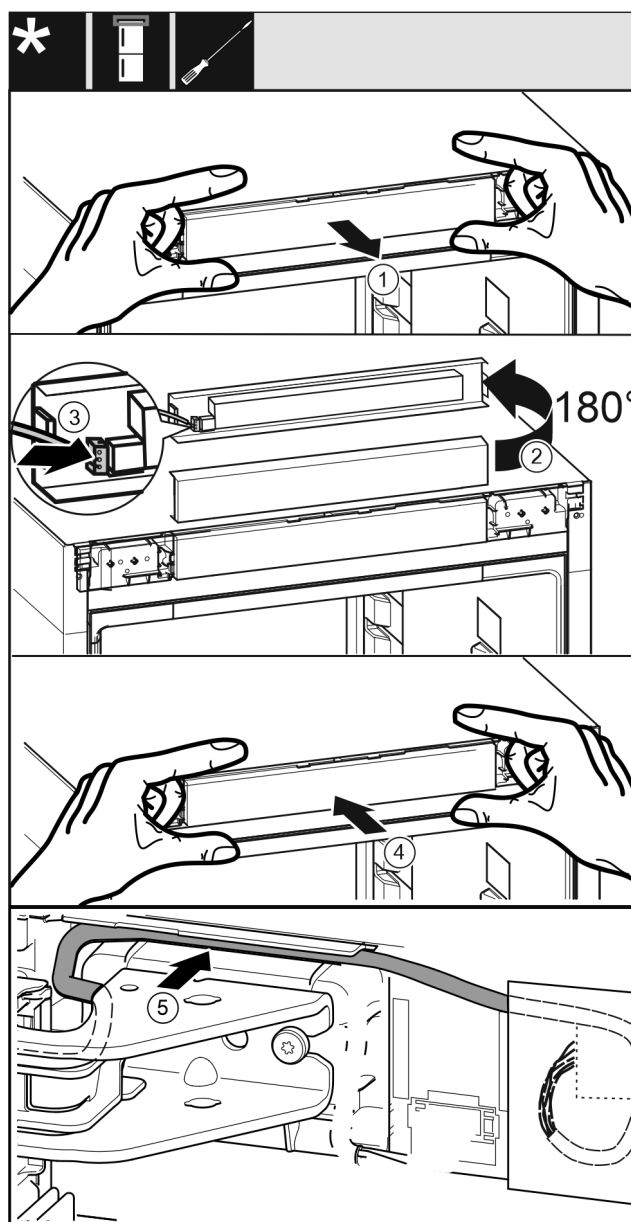

Fig. 48
- Carefully pull out the control plate Fig. 48 (1).
- Turn the control plate Fig. 48 (2) upward by 180°.
- Snap the plug Fig. 48 (3) into place on the control unit panel.
- Snap the control plate Fig. 48 (4) back onto the appliance.
- Carefully insert the cable Fig. 48 (5) into the guide above the top swap bearing block.